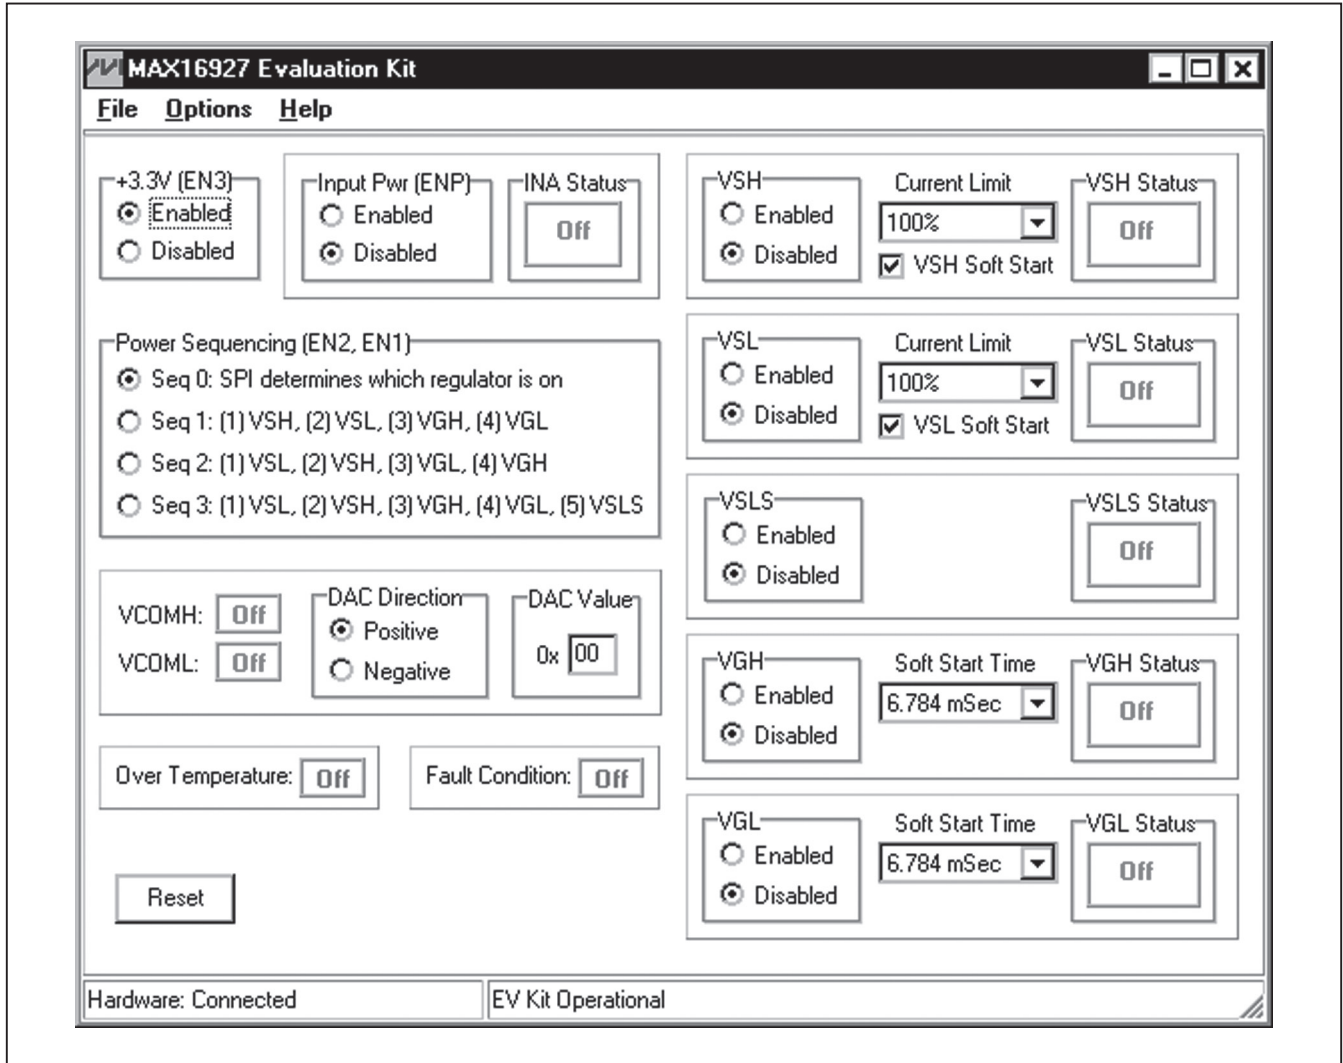

Figure 1. MAX16927 EV Kit Software Main Window
- 10) Observe as the program automatically detects the connection of the device and starts the main program. After successful connection, the EV kit software main window appears in the upper-left corner of the window, as shown in Figure 1.
The GUI shown in Figure 1 displays the EV kit software main window. This window provides a convenient means to control the device. Use the mouse or press the Tab key to navigate through the GUI controls. The correct SPI write operation is generated to update the device's internal memory registers when any of these controls are executed.
The EV kit software main window (Figure 1) divides the EV kit software functions into logical sections: The **+3.3V (EN3)** and **Input Pwr (ENP)** sections, the **Power Sequencing (EN2, EN1)** section, the **VSH, VSL, VSLS, VGL, and VGH** sections, the **VCOMH** and **VCOML** sections, and the **Over Temperature** and **Fault Condition** displays. **+3.3V (EN3)** enables or disables the +3.3V buck converter. **Input Pwr (ENP)** enables or disables all the outputs on the EV kit, except for the buck-converter output. **Power Sequencing (EN2, EN1)** selects the power-on sequence. **VSH, VSL, VSLS, VGL, and VGH** control the VSH, VSL, VSLS, VGL, and VGH, respectively. **VCOMH** and **VCOML** control the VCOMH or VCOML directions and outputs.